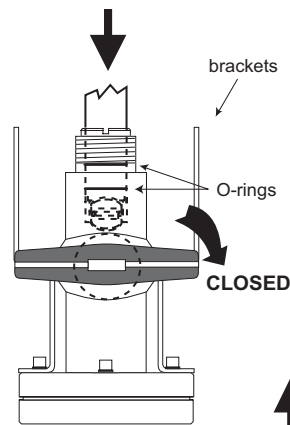

Figure 1
2. Carefully insert the sensor into the 3519 valve assembly until the first two O-rings seat inside the bore. (Figure 1)
3. Close the ball valve. (Figure 1)